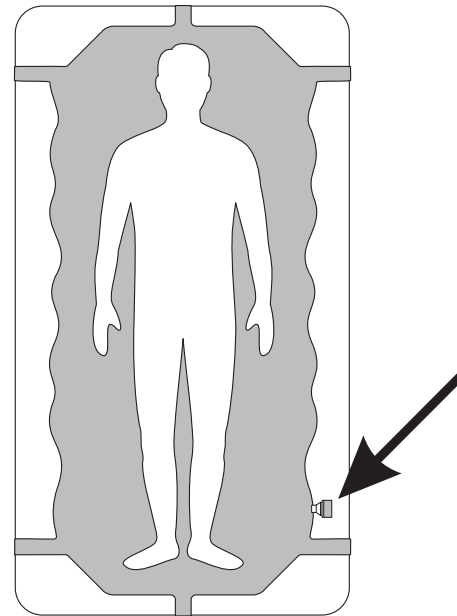

Figure 2 Hose Connection Location
1. Remove the overlay from the plastic bag and lay overlay across the bed with the hose connection on the left side of a supine patient (See Figure 2).